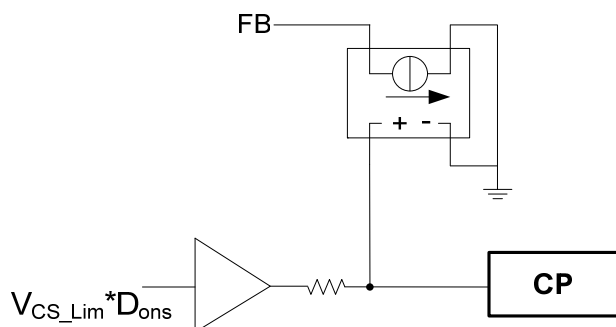

Figure 10: Output Cable Compensation
The MP023 has an internal output cable compensation (CP) circuit (see Figure 10). A switching signal ($V_{CS_Lim} \cdot D_{ons}$) is generated internally and is synchronized with the switching frequency. The duty on-time of this signal is D_{ons} , and the amplitude of this signal is proportional to the current-limit threshold. This signal is output to CP through a $1M\Omega$ resistor. A low pass filter can be implemented by placing an external capacitor on CP, and then a DC voltage (V_{CP}) proportional to the output current can be deducted on CP. Note that if cable compensation function is needed, D_{S_Max} is default as 0.4 and can't be programmable by connecting external CP resistor.